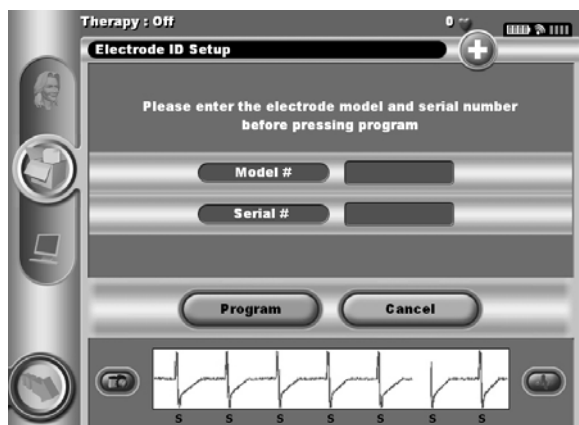

Figure 22: Entering electrode information
5. Enter the electrode model and serial number (Figure 22).